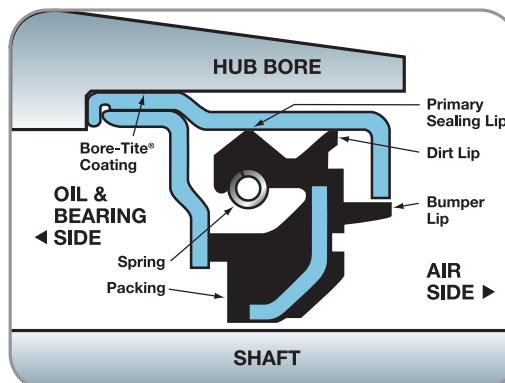

Figure 3
**SKF Scotseal® Classic** is a unitized, one piece design consisting of a sealing element (packing) that is assembled between a metal outer and inner case. The packing consists of three sealing lips; a spring-loaded primary sealing lip that is factory pre-lubed, a dirt exclusion lip, and an outer bumper lip that acts as a preliminary dirt excluder. The seal is pressfit into the hub bore using Scotseal Installation Tools. The Scotseal Classic maintains a metal-to-metal contact between the seal O.D. and the hub bore surface as well as a metal-to-metal contact between the packing I.D. and the spindle. (See Figure 3).